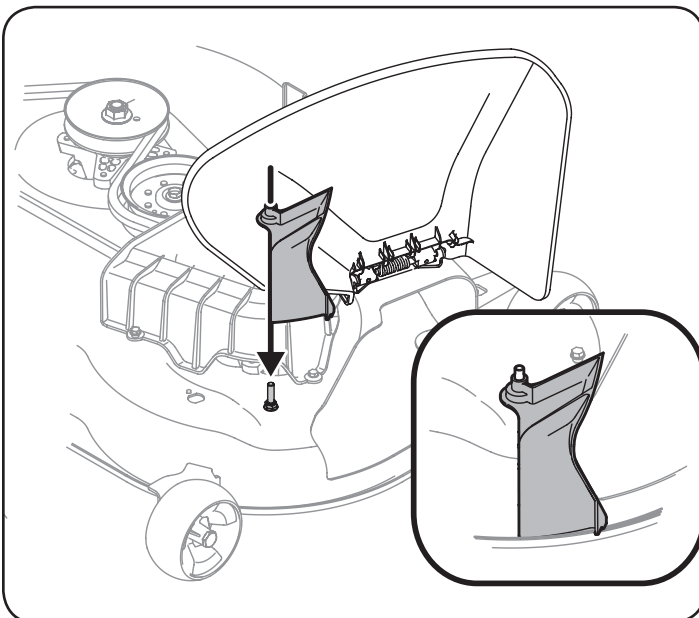

Figure 4
2. Position the chute adapter over the pin. See Figure 4.